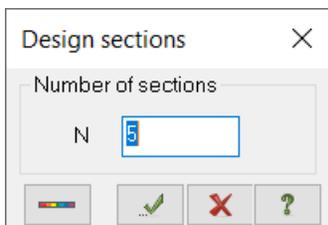

Figure 19.16 Design sections dialog box
- ⇒ In the **Design sections** dialog box (see Fig.19.16), specify number of sections $N = 5$.